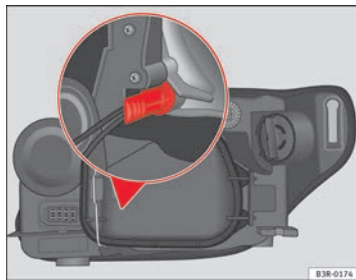

Fig. 213 Side lights. Bulb holder grip in vertical position
- Insert the bulb into the socket so that the side of the bulb holder grip is vertical ⇒ fig. 213 and press on it.